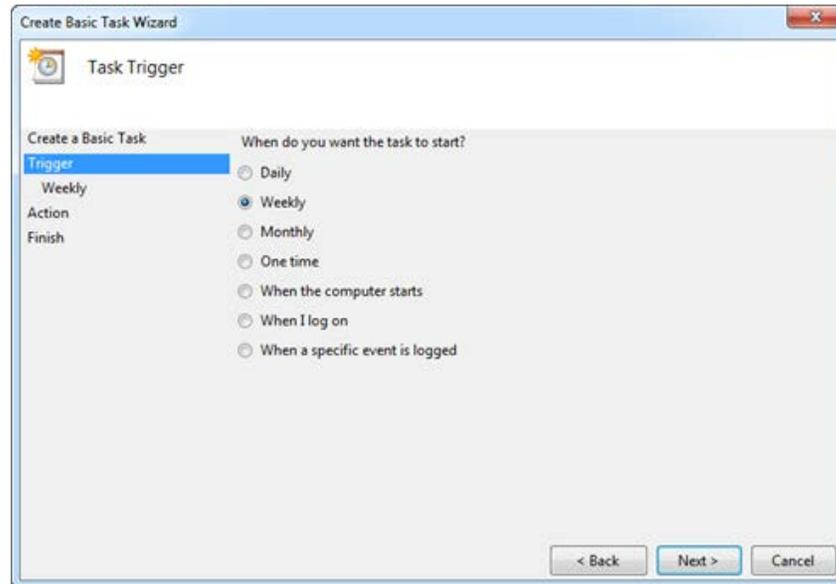

Figure 69. Task Trigger
- 5 Select one of the radio buttons to indicate the desired frequency of the backup and click the **Next** button. See Figure 69.